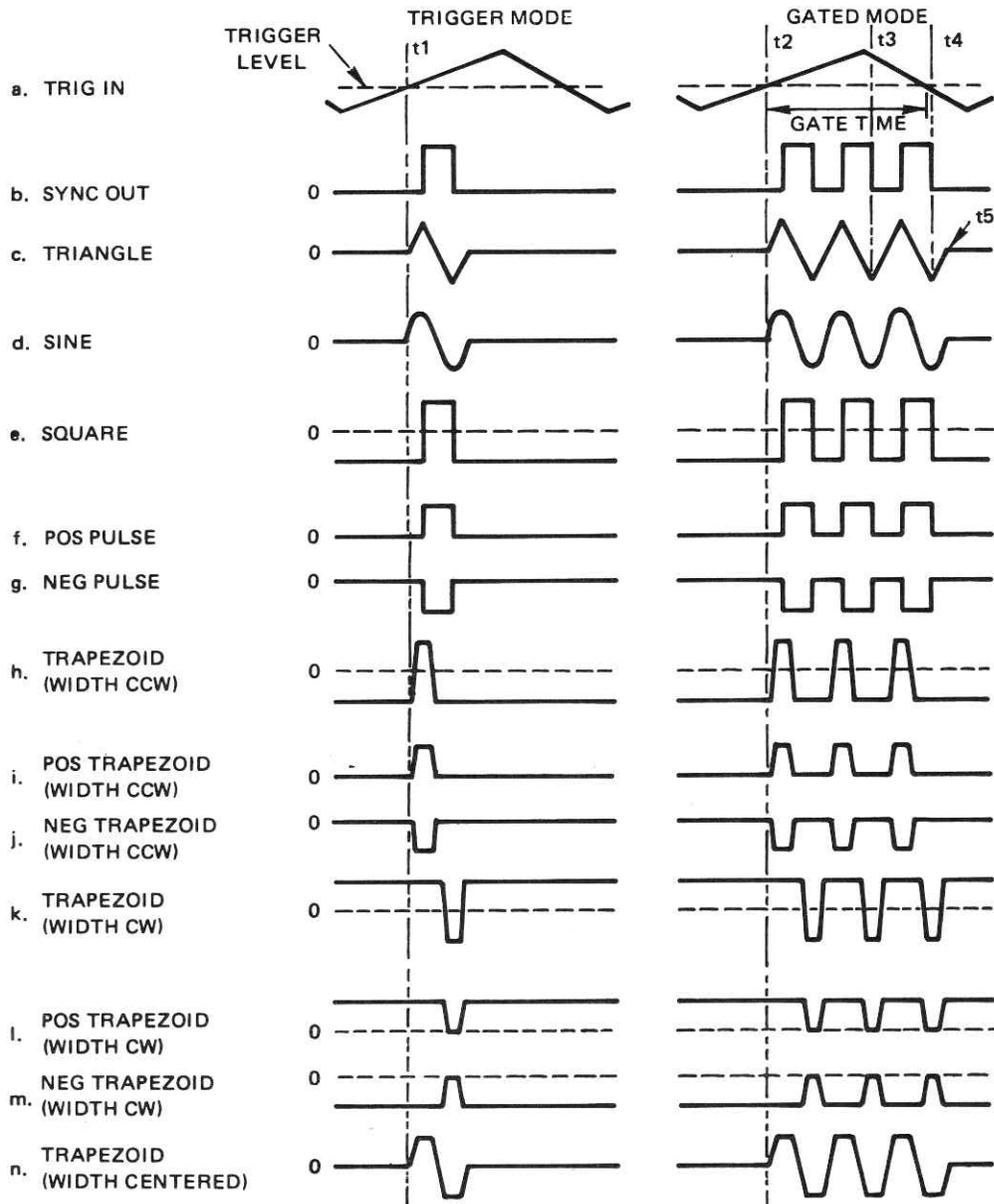

Figure 2-8. Trigger and Gated Operations
2. For external triggering, apply a repetitive signal, any waveform from 1 V p-p to less than ±50 V peak voltage (see TRIG IN specification, Paragraph 2.3, Item 22), to TRIG IN connector. Set the TRIG LEVEL control for proper triggering. See Figure 2-8 for the timing relationship of the trigger input, sync output and selected waveform output.
With the generator adjusted as in trigger operation, change the GEN MODE control to GATED position. The generator output will then be a burst of cycles. If the trigger is the SWEEP OUT sawtooth waveform, the duration of the burst is adjustable by the TRIG LEVEL control (see Figure 2-8). Notice that the last cycle gated is completed at time t5, if the gate signal is removed between time t3 and t4. In manual gating, set TRIG LEVEL control full ccw. The tone burst continues as long as the manual switch is pressed.